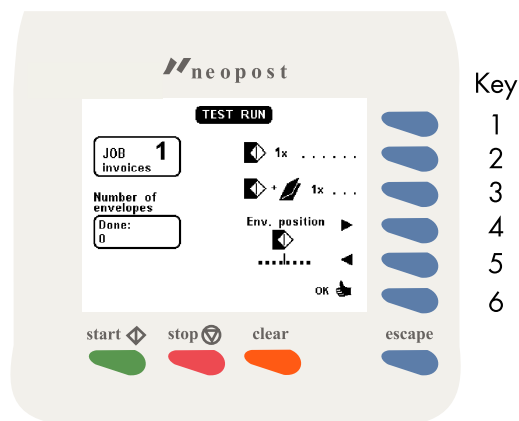
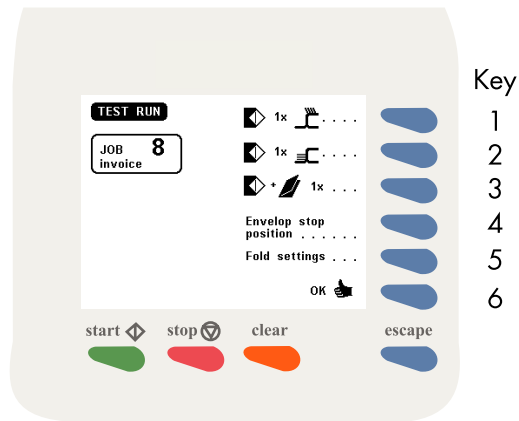
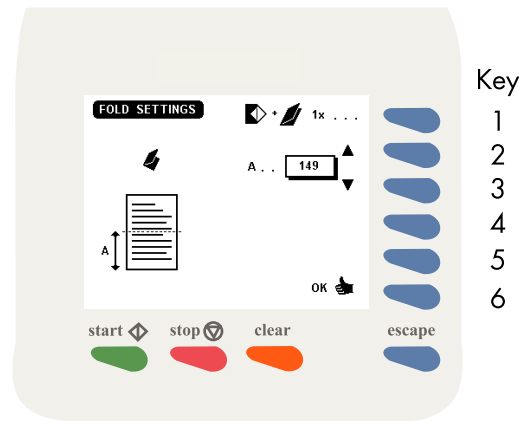

Fig. 17
Fig. 18
Fig. 20
After pressing key 3 in the "main menu" a test run screen will be displayed. In case an FO-2A is used the screen as shown in fig. 17 will appear. The purpose of the test run menu is to check proper envelope feed and to make adjustments to the envelope stop settings.
- feed one envelope (key 2).
- insert one document (key 3).
- envelope stop position to the right (key 4).
- envelope stop position to the left (key 5).
- confirm settings and return to the main menu (key 6).
In case an FO-3 is used, a screen as shown in fig. 18 will be displayed. The envelope position keys 4 and 5 of figure 17 have moved to a new submenu (see fig. 18, key 4): after pressing key 4 this submenu will be entered and the possibility of adjusting the envelope stop position to the left or right is available again.
*In case the inserter is equipped with a second envelope hopper (EF-3) the test run menu has been extended and the following functions for key 1 and 2 have become available (see fig. 18 for an example):*
- feed one envelope from the standard hopper (key 1).
- feed one envelope from the second hopper EF-3 (key 2).
In the 6900 Series, if and when the electronic folder FO-3 is used, the operator has the possibility to adjust the (mechanical) folder settings during the execution of a specific job. This might be necessary for instance when adapting the fold settings to the current mechanical paper parameters (thickness, sturdiness et cetera). After pressing key 5 in figure 18 the menu of figure 20 appears.
- test for a folded document 1x (key 1). It makes sense to do this in the same menu screen.
- enter and effectuate the settings (key 6). Back to the menu "test run" menu of figure 18.
- discard the settings (Esc). Back to the "test run" menu of figure 18.